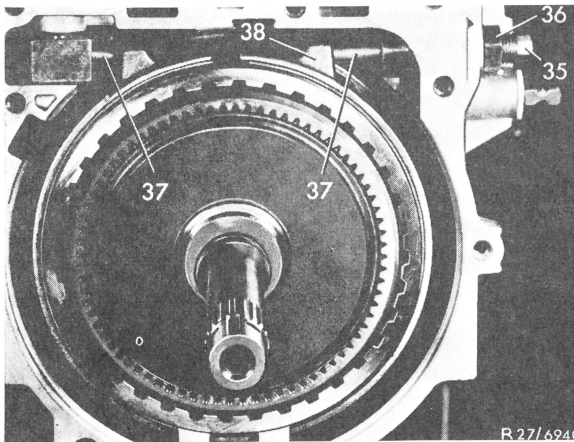

Fig. 11
**15** Unlock adjusting screw for brake band B 3 (35) by loosening counternut (36) and screw out. Remove both thrust pins (37) (Fig. 11).